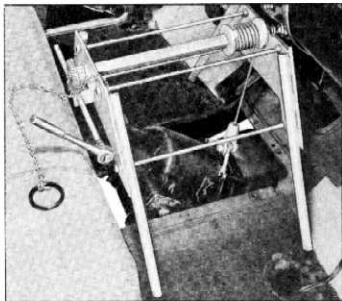

Fig. 145—Installing Transmission
4. Raise transmission at the same time lifting up on rear end (fig. 145). Move up through opening using pry bar as necessary to gain clearance at servo cover.